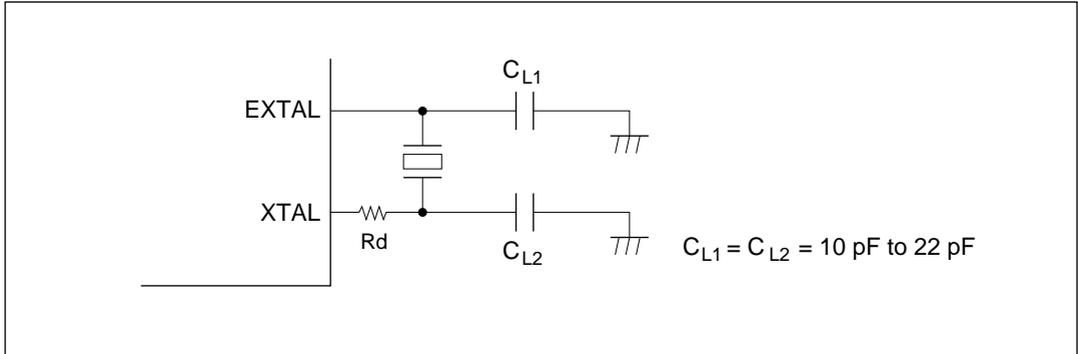

Figure 6-2 Connection of Crystal Oscillator (Example)
(1) Circuit Configuration: An external crystal can be connected as in the example in figure 6-2. Table 6-1 indicates the appropriate damping resistance R_d . An AT-cut parallel resonance crystal should be used.